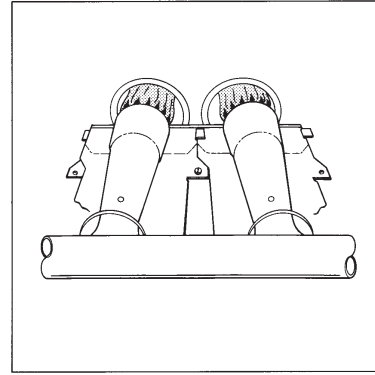

Fig. 4 - Burner Flame Adjustment
6. The burner flames are in good adjustment, See Fig. 4 (by comparison with pictorial sketches or drawings of the main burner flame.)